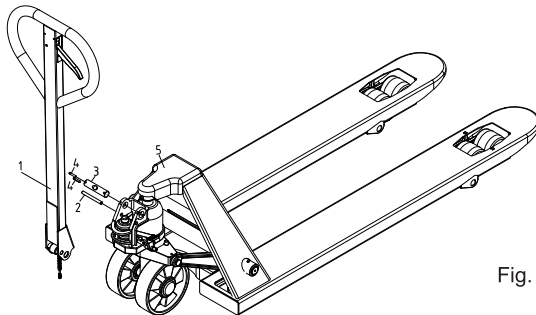

Fig. 2
1. The adjusting screw (D121N) (Fig.2) is designed to adjust the 3 control positions. Use a wrench and a slotted screw driver to loosen the nut and turn the adjusting screw clockwise, or counter-clockwise, in order to leave 4-5 threads out after the nut is secured on the lever plate (D120N). Check to see if the pallet jack works correctly in the 3 control positions. If more adjustments are necessary, proceed to the following steps.